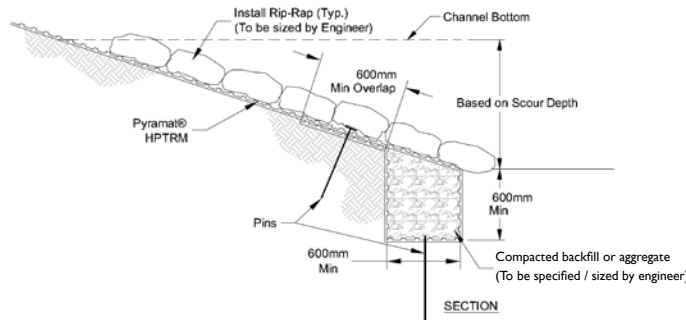

FIGURE 2C: INITIAL TRENCH WITH RIP-RAP TOE PROTECTION DETAIL
- For applications that require rip-rap toe protection, rip-rap should be placed on the Pyramat® HPTRM slope face from the initial trench at toe of slope to the channel bottom, 900mm minimum (reference Figure 2C). Rip-rap should be sized by Engineer.